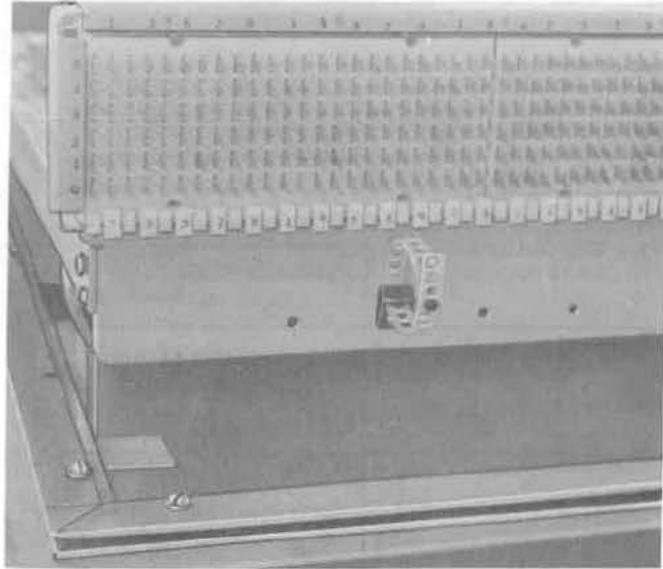

Fig. 10—Method of Mounting Cable Clamps
9.04 Secure the cable to the terminal field framework with plastic clamps furnished in the loose parts bag. Four holes are provided on the front of the terminal field frame assembly for bolting the clamps to the frame. (See Fig. 10.)